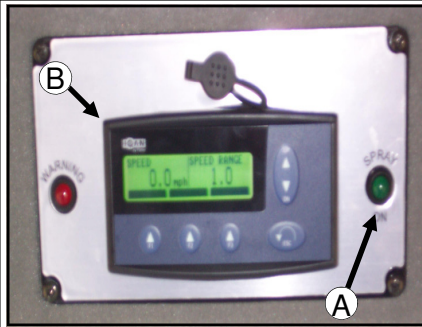

FIG. 4.9-1
**SPRAY SYSTEM INDICATOR LIGHT**– The spray system indicator light (fig. 4.9-1, item A) will illuminate when the main spray control on the hydrostatic lever (fig. 4.9-2) has been activated. If the light is not on, the spray system is not on.
**MDM**– The MDM (fig. 4.9-1, item B) is also referred to as the message center. This monitor takes